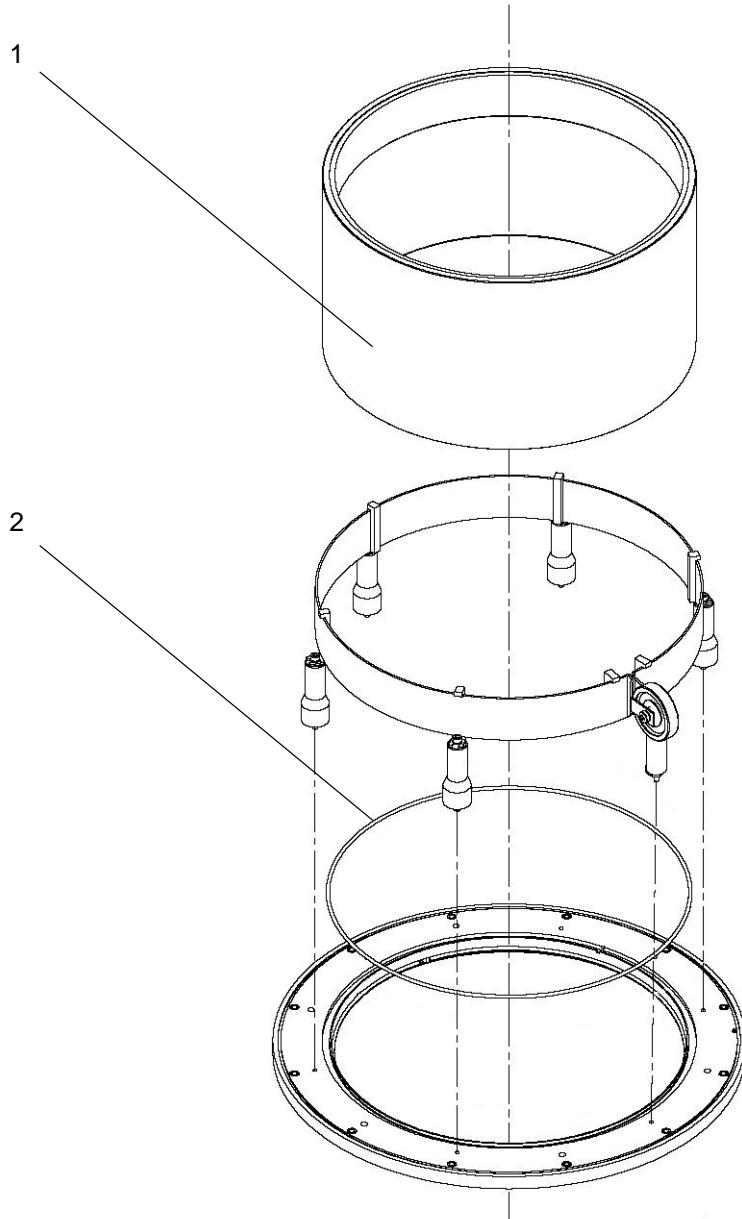

Figure 4.29 ICP Ceramic and O Ring
9. Refer to Figure 4.29.
10. Remove the ceramic (1) from the chamber.
11. Remove and discard the O Ring (2).